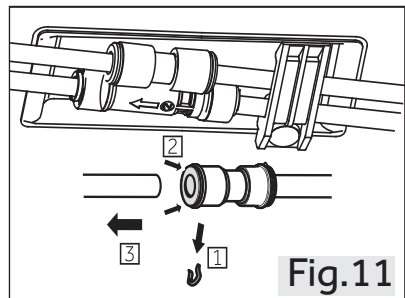

Fig.11
1.Release the left side of two water couplers on the front left corner at the bottom of appliance : press and hold in the collar as shown and remove the water pipe .( Fig .11).